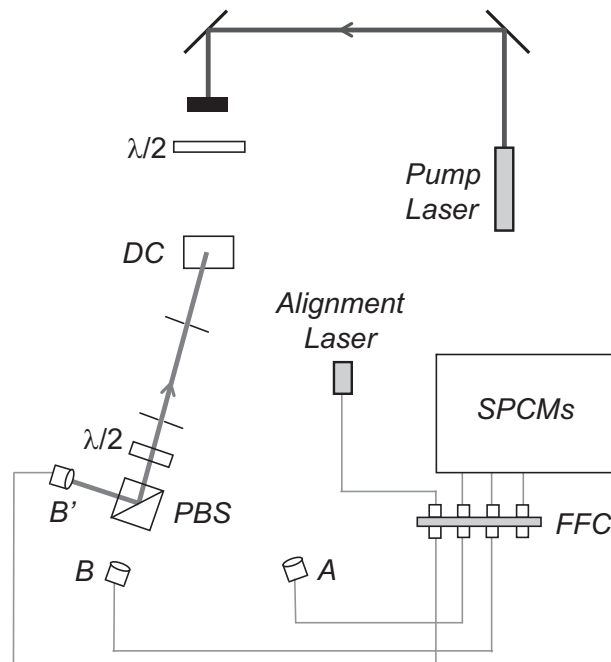

Fig L2.4 Aligning detector-B'.
- Unscrew the **B**-fiber from the alignment laser, and reconnect it to the fiber leading to SPCM **B**. Connect the **B'**-fiber to the alignment laser, as shown in fig. L2.4. At this point the beam won't go back through the irises.